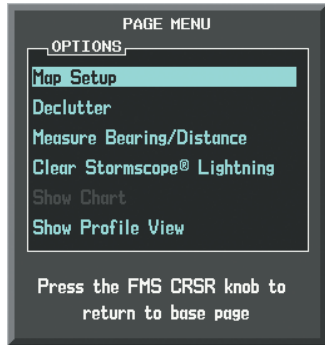

Figure 6-180 Navigation Map Page Menu
- 3) With Map Setup highlighted, press the **ENT** Key (Figure 6-180).